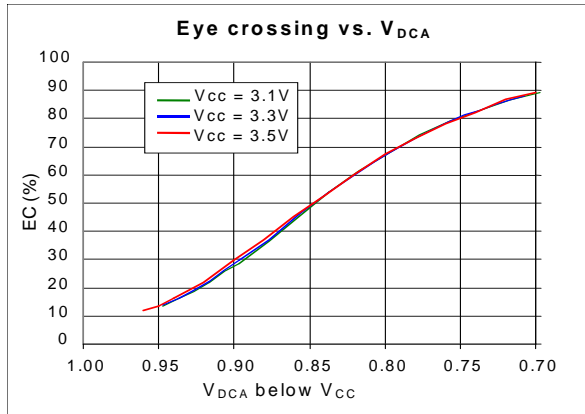

Figure 5. Eye crossing vs. voltage at DCA pin.
The DCA pad may be used to adjust the crossing level in the output eye diagram. When the DCA pad is left open, the eye-cross (EC) level is typically $50 \pm 5\%$ over the entire input signal range, and the voltage at the DCA pad is approximately 0.85 V below V_{CC} , i.e. 2.45 V for $V_{CC} = 3.3$ V. External voltage applied to the DCA input will shift the eye crossing as shown in Figure 5 (see pg. 7). The DCA input is referenced to V_{CC} , i.e. the EC level remains constant when the voltage between V_{CC} and the DCA pad is held constant, even as V_{CC} changes. The DCA pad typically has an input resistance of 7 k Ω with an input current of zero when $V_{DCA} = 0.85$ V below V_{CC} . The DCA input current ranges from -15 to $+15$ μA over the full EC level adjustment.